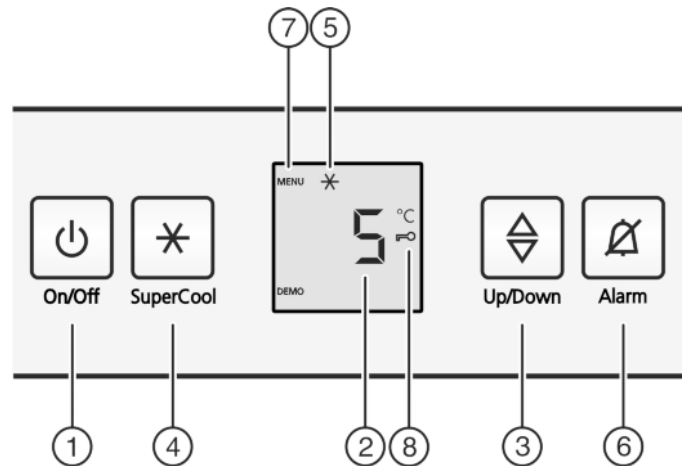

Fig. 2
- ▶ Press the On/Off button Fig. 2 (1).
- ▶ Press the SuperCool button *Fig. 2 (4)* for about 5 seconds.
- ▷ The Menu symbol is shown on the display, *Fig. 2 (7)*.
- ▶ Confirm briefly with the SuperCool button *Fig. 2 (4)*.
- ▷ The child lock symbol, *Fig. 2 (8)*, lights up on the display.
- ▶ Briefly press the On/Off button *Fig. 2 (1)*.
- ▶ Press alarm button *Fig. 2 (6)*.
- ▶ Call up temperature function: press the setting button *Fig. 2 (3)*.
- ▶ Change the temperature in 1 °C steps: Press the setting button *Fig. 2 (3)* until the required temperature is indicated in the temperature display.
- ▶ Briefly press SuperCool button *Fig. 2 (4)*.
- ▷ The SuperCool symbol *Fig. 2 (5)* lights up in the display.
- ▷ The SuperCool symbol *Fig. 2 (5)* goes out in the display.